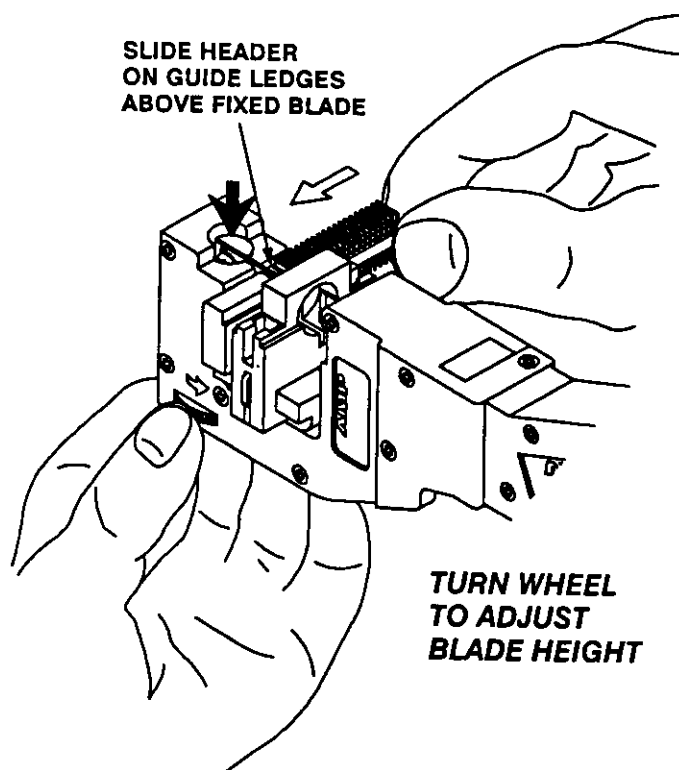

Fig. 3
C. Adjust Fixed Blade Height (Figure 3)**NOTE**